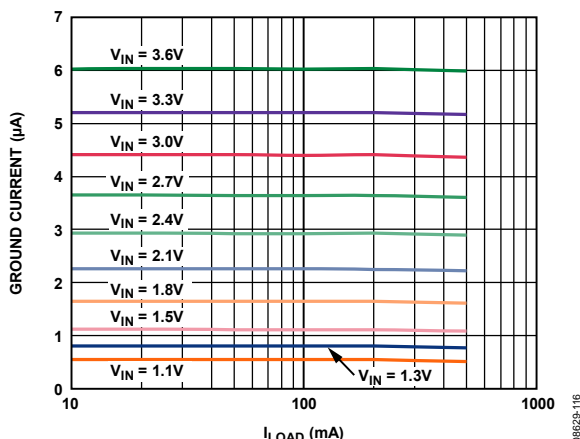

Figure 16. Ground Current vs. Load Current, Different Input Voltages
The major source for ground current in the ADP194 is the 4 MΩ pull-down resistor on the enable (EN) pin. Figure 16 shows typical ground current when $V_{EN} = V_{IN}$ and V_{IN} varies from 1.1 V to 3.6 V.